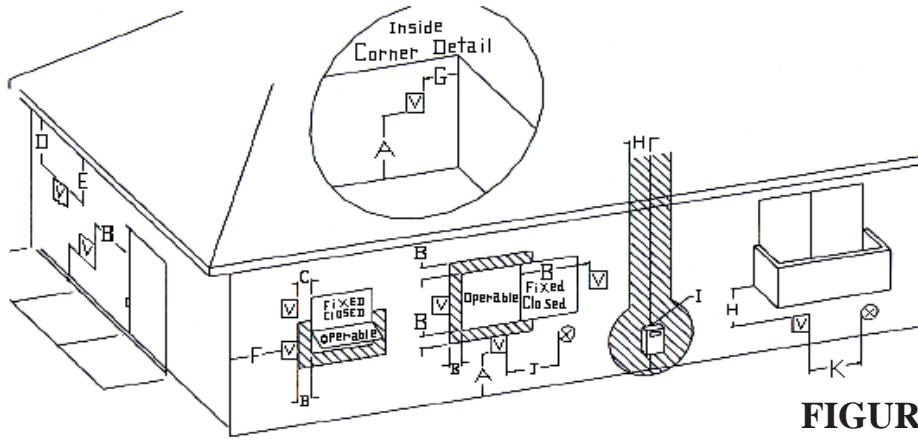

FIGURE 1
5. The minimum clearance from the edge of the vent cap to any overhanging obstruction, perpendicular side wall, or corner of building is 12". (See Figure 1).
6. Vent cap must be located at least 9" from any opening that would allow combustion products to enter the building, windows, doors, etc., and 12" above the ground or shrubbery (See Figure 1). Do not install vent cap in a window well. Provisions must be made to prevent snow accumulation from infringing on vent cap clearances.
- Check outside wall at this location for proper clearances around vent cap. (See Fig. 1).